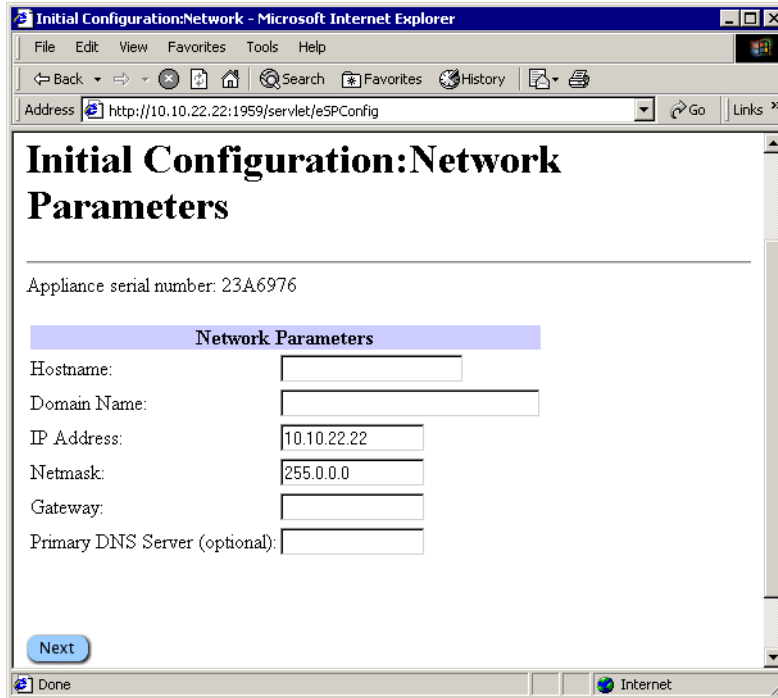

Figure 2-4 Initial screen using port 3939
a. After a short pause, you will get a window similar to that shown in Figure 2-4.
This tool provides you with the ability to configure the appliance from the management console. Once the appliance is discovered by IAAConfig, you can configure it; select **Appliance > Start Web Management**. This launches a browser where you can configure the system. The network settings window is similar to Figure 2-4.